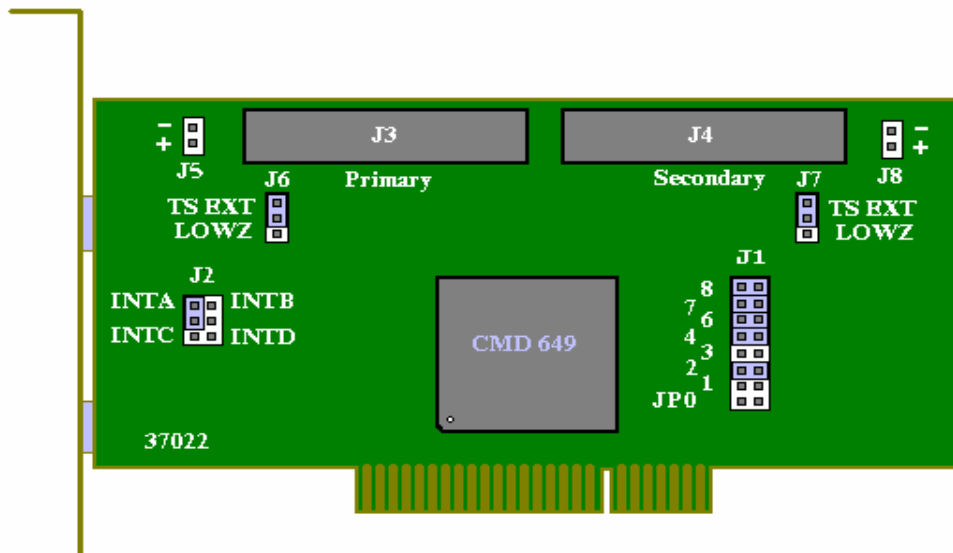

Figure 1. Flexstar UDMAxxx Card
- 1) Set the option jumpers to the default settings noted below and in figure 1.